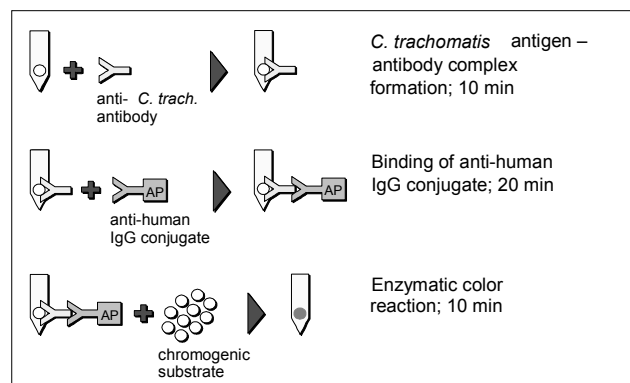

Figure 1. Principle of the Test
At the outset of the test, serum or plasma specimens are added to the diluent in the wells of row A of the Developing Plate. The Card is then inserted in the wells of row A. Anti-*C. trachomatis* antibodies, if present in the specimens, will specifically bind to the respective chlamydial antigens on the lower spot of each tooth of the Card (Figure 1). Simultaneously, immunoglobulins present in the specimens will be captured by the anti-human immunoglobulin on the upper spot (Internal Control). Unbound components are washed away in row B. In row C, the human IgG captured on the teeth will react with alkaline phosphatase (AP)-labeled anti-human IgG. In the next two rows, unbound components are removed by washing. In row F, the bound alkaline phosphatase will react with chromogenic components. The results are visible as gray-blue spots on the surface of the teeth of the Card.